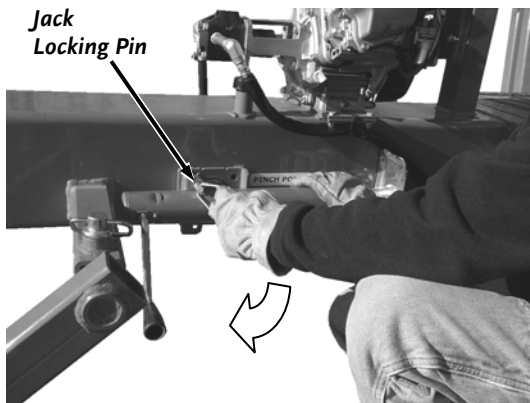

Figure 26
11. Pull the Jack Spring Pin out and rotate the Jack until it locks into the vertical position (**Figure 26**).